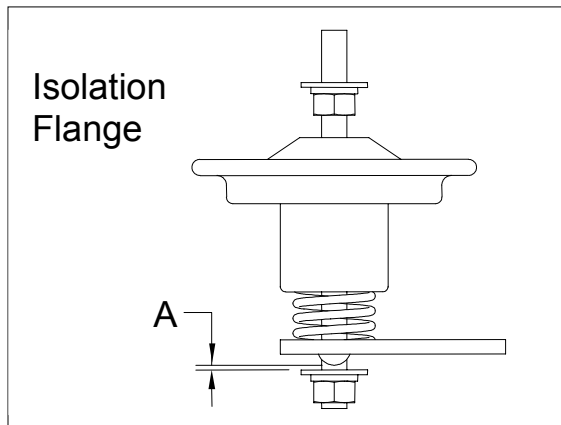

Figure 13 - Wipe Measurement
To determine electrode wear, measure the distance between the lever and washer in the closed (ON) state, as shown in Figure 13. This dimension is called the “wipe”. If the 1.0mm contact wear gauge cannot be inserted, then the end of the service life has been reached. The maximum number of open/close operations is 500,000 regardless of the magnitudes of the currents interrupted. Contact Toshiba for information regarding replacement of the vacuum interrupters.